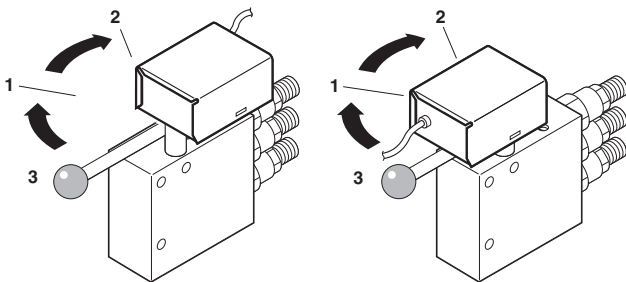
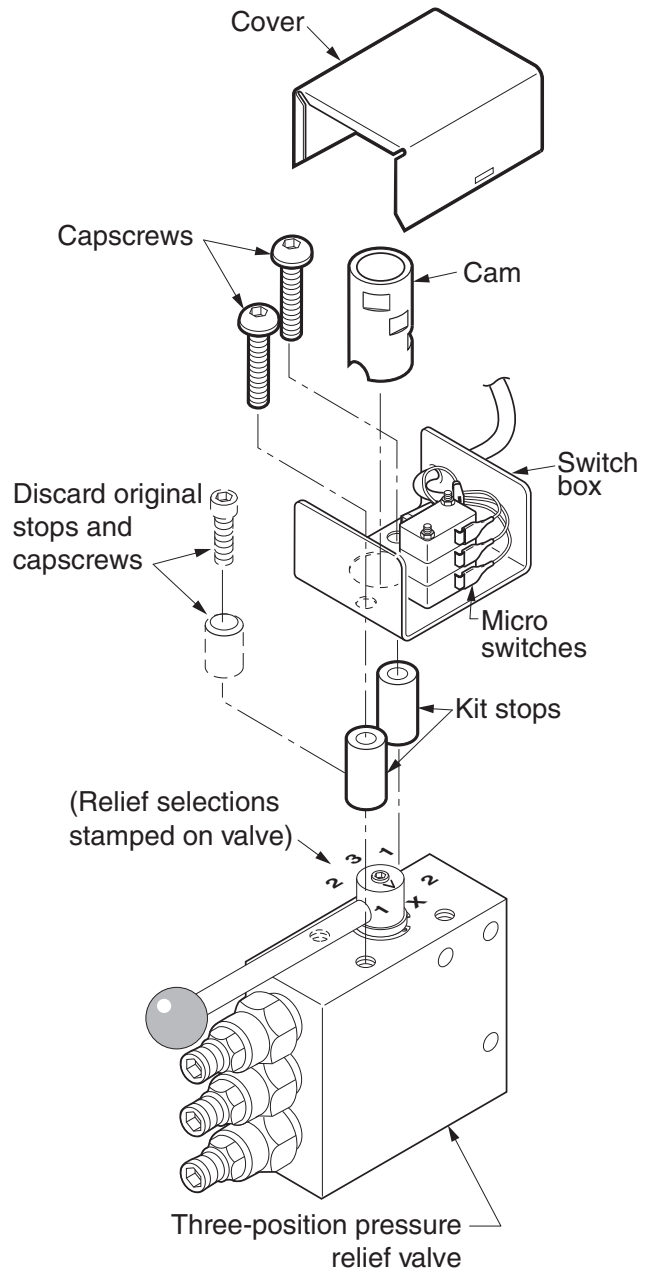

Figure 1, Switch box mounting options
Figure 2, Switch box assembly
2. The switch box may be installed in either 180° position as required for clearance or cable routing, as shown in Figure 1. The switch box mounting holes must line up with the two tapped holes near relief locations marked 1, stamped on the valve (Fig. 2).